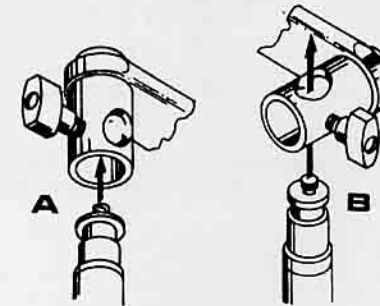

Fig.3
- Mount the Esprit 2 1500 unit on selected support system. The mounting bush on the 'L' bracket allows for two possible ways of mounting to the stand / support (Fig.3). Method A should be used under normal operation.